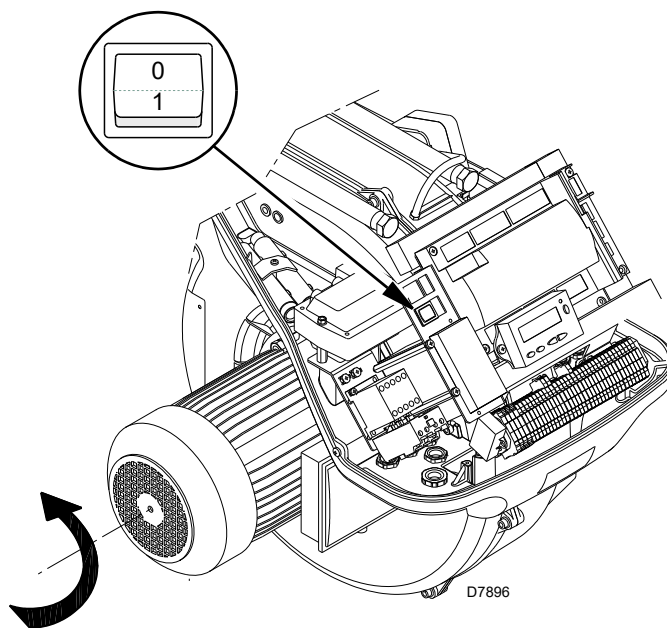

Fig. 30
Close the thermostats/pressure switches and turn the switch of Fig. 30 to position "1".
As soon as the burner starts up, go in front of the cooling fan of the fan motor and check it is rotating anticlockwise. See Fig. 30.
- place the switch of Fig. 30 in position "0" and wait for the control box to carry out the switch-off phase;
The burner is in the heat request waiting mode, or the selector “0-1” (Fig. 30 at page 34) is in the “0” position.